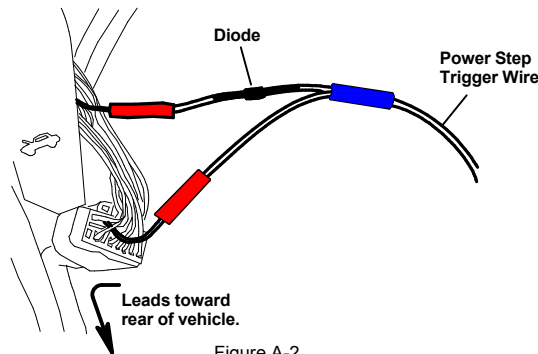

Figure A-2
3. Cut this wire and install Single Diode Harness as oriented in Figure A-2.